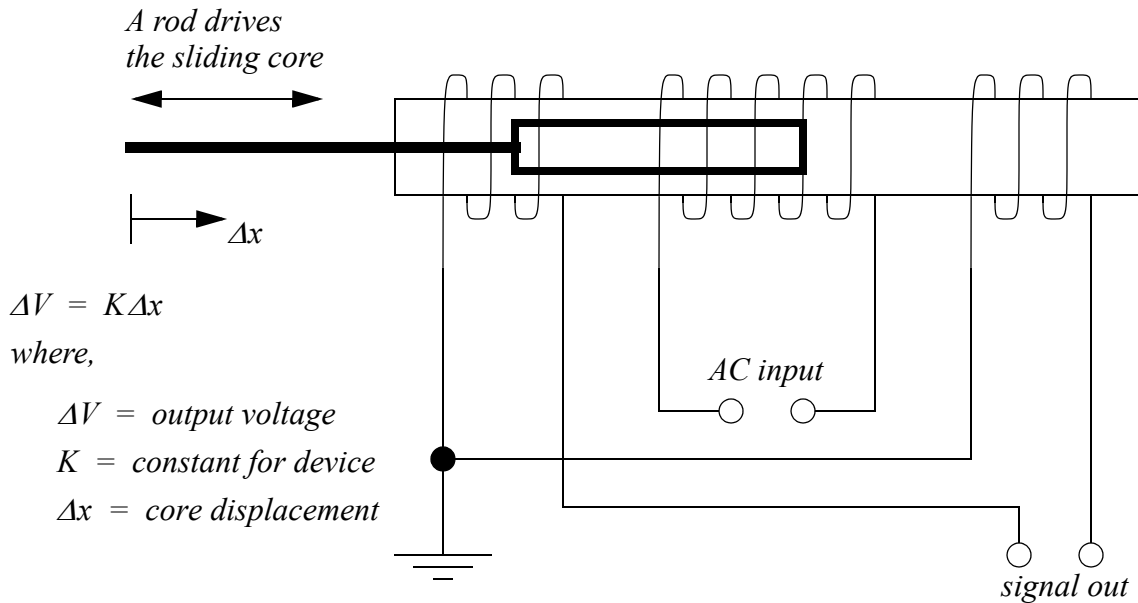

Figure 23.8 An LVDT
Linear Variable Differential Transformers (LVDTs) measure linear displacements over a limited range. The basic device is shown in Figure 23.8. It consists of outer coils with an inner moving magnetic core. High frequency alternating current (AC) is applied to the center coil. This generates a magnetic field that induces a current in the two outside coils. The core will pull the magnetic field towards it, so in the figure more current will be induced in the left hand coil. The outside coils are wound in opposite directions so that when the core is in the center the induced currents cancel, and the signal out is zero (0Vac). The magnitude of the *signal out* voltage on either line indicates the position of the core. Near the center of motion the change in voltage is proportional to the displacement. But, further from the center the relationship becomes nonlinear.